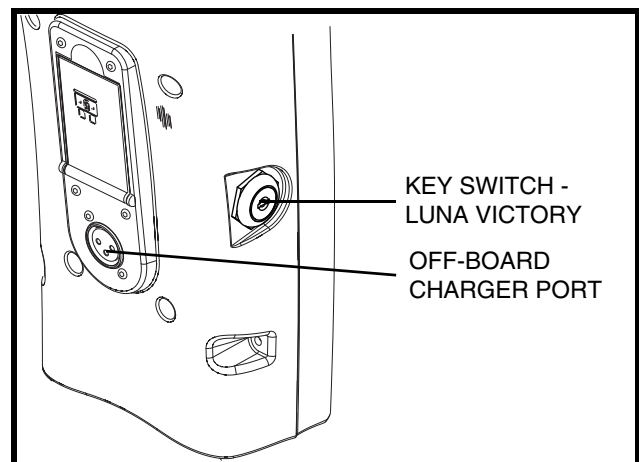

Figure 6. Off-board Charger Port (Tiller Mounted)
NOTE: The key switch on the Luna Victory model is mounted on the tiller. See figure 6.
The off-board charger power cord plugs into this port during battery charging. The off-board charger port will be located on the tiller. See figure 6.
4. Plug the 3-pin charger power cord into the off-board charger port. See figures 6 and 13.